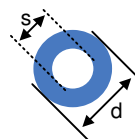

图 10-2. PowerPAD™ Layout Recommendation
- The thermal pad should be tied to the PCB ground plane with a minimum of 25 vias. See Figure 10-2 for an example.